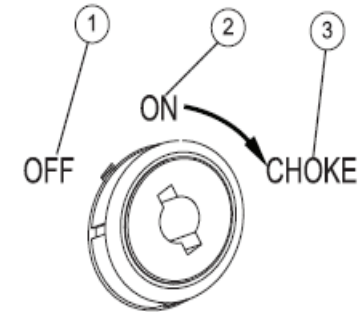

Figure-6 Switch (Example)
- This controls the ON / OFF functions choke and fuel valve operation. See Figure-6
- The "OFF" position (1) stops the engine and shuts off fuel flow.
- The "ON" position (2) is for normal operation and to gradually reduce the use of the choke.
- The "CHOKE" position (3) switches the fuel valve on to start the engine.